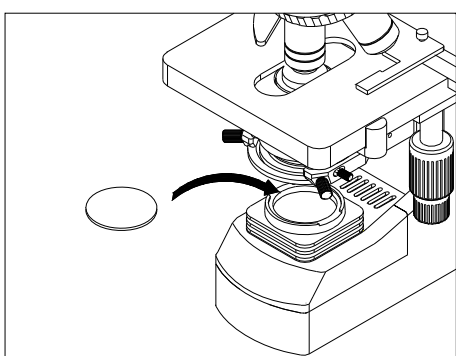

Fig.7
2.2.4 Mounting the filters (Fig.7)